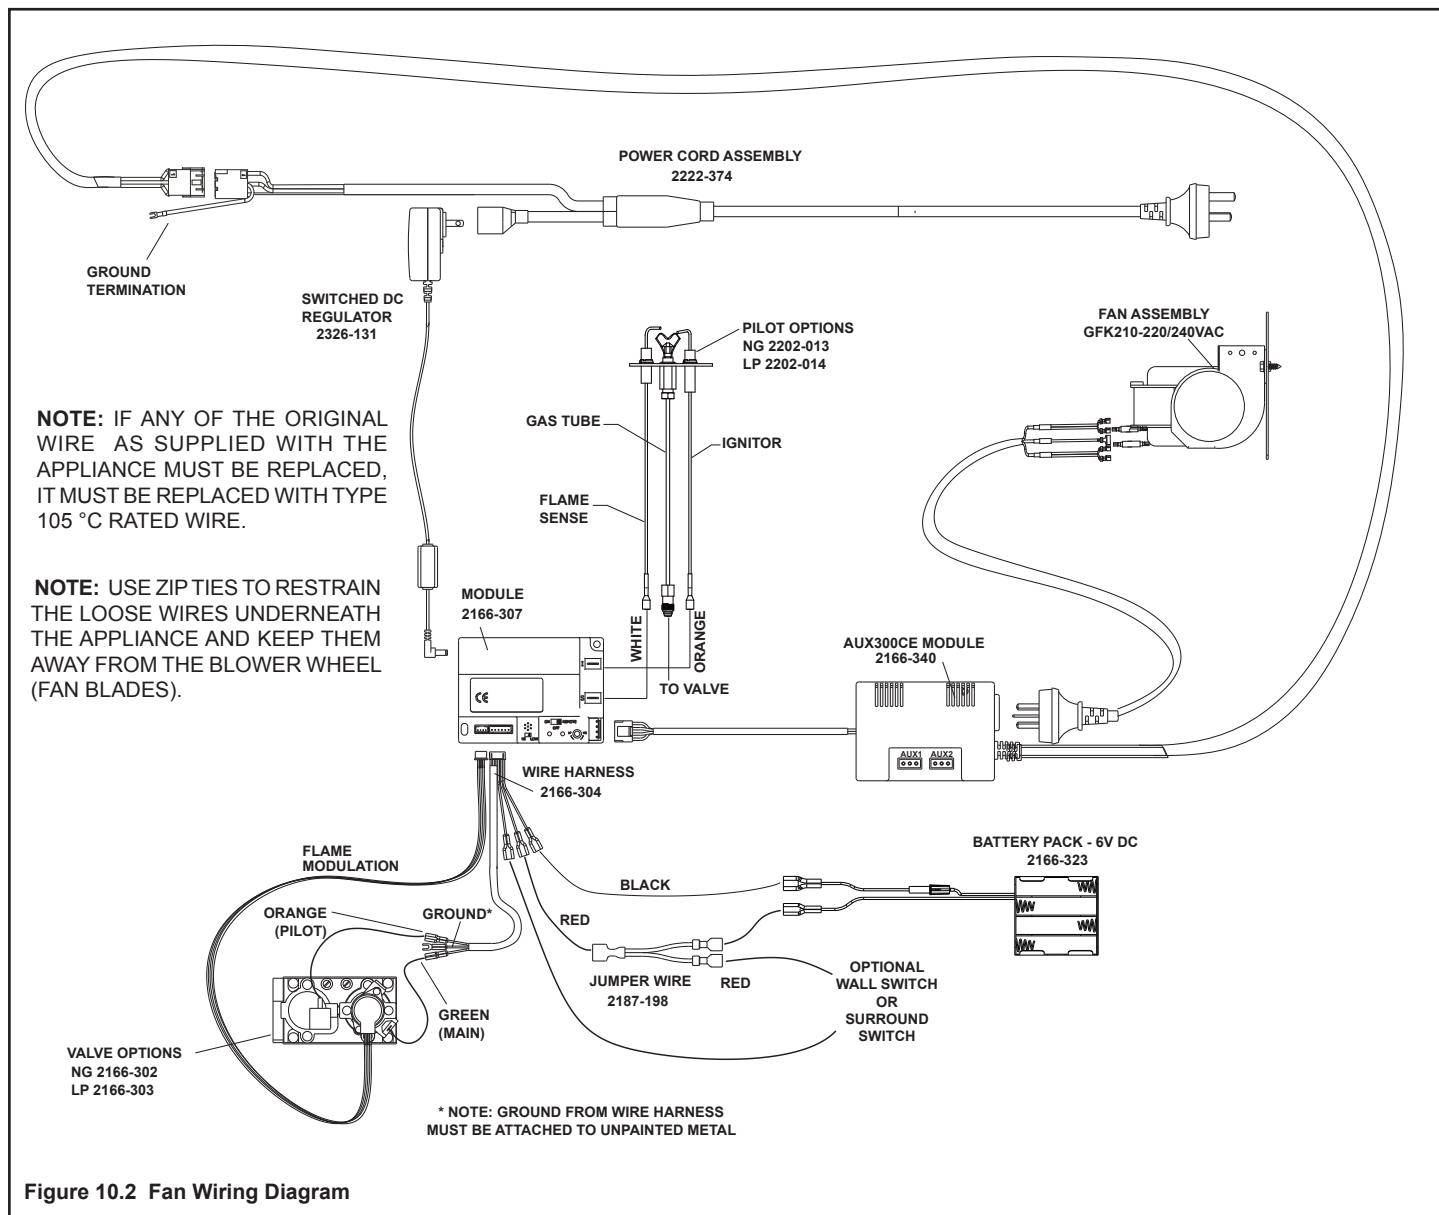

Figure 10.2 Fan Wiring Diagram
- This appliance is approved for use with 220/240VAC Power Cord assembly (SRV2222-374) which has a female plug in to accommodate all control options and accessories. The power cord assembly must be purchased separately and attached prior to installation. See Figure 10.2. An outlet box may be installed in a bottom back corner of the existing solid fuel masonry or factory built fireplace to plug in the cord assembly, or the supplied power cord may be routed out onto the hearth to a nearby outlet.
- To connect optional accessories, the purchased power cord assembly must be used. See attached Figure 10.2 for a wiring diagram for a blower or remote.